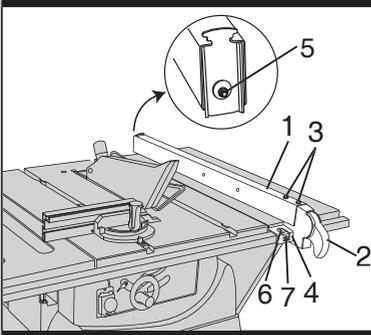

Fig 16
- 1) The fence (1) is moved by lifting the handle (2) and sliding the fence to the desired location. Pushing down on the handle locks the fence in place.
- Loosen the two bolts (3), and lift the handle (2).
- Hold the fence bracket (4) firmly against the front of the saw table. Move the far end of the fence until it is parallel with the mitre gauge groove.
- Lift the handle (2) and turn the adjusting nut (5) clockwise until the rear clamp is snug. Do not turn the adjusting screw more than 1/4 turn at a time.
- Over-tightening the adjusting screw could bend the rear clamping lever, which may cause the fence to come out of alignment (See fig. 16).
- 1) The rip fence indicator (6) points to the measurement scale. The scale shows the distance from the side of the fence closest to the blade.
- 2) Measure the actual distance with a ruler. If there is a difference between the measurement and the indicator, adjust the indicator (6).
- 3) Loosen the screw (7), and slide the indicator to the correct measurement on the scale. Tighten the screw, and remeasure with the ruler (See fig. 16).